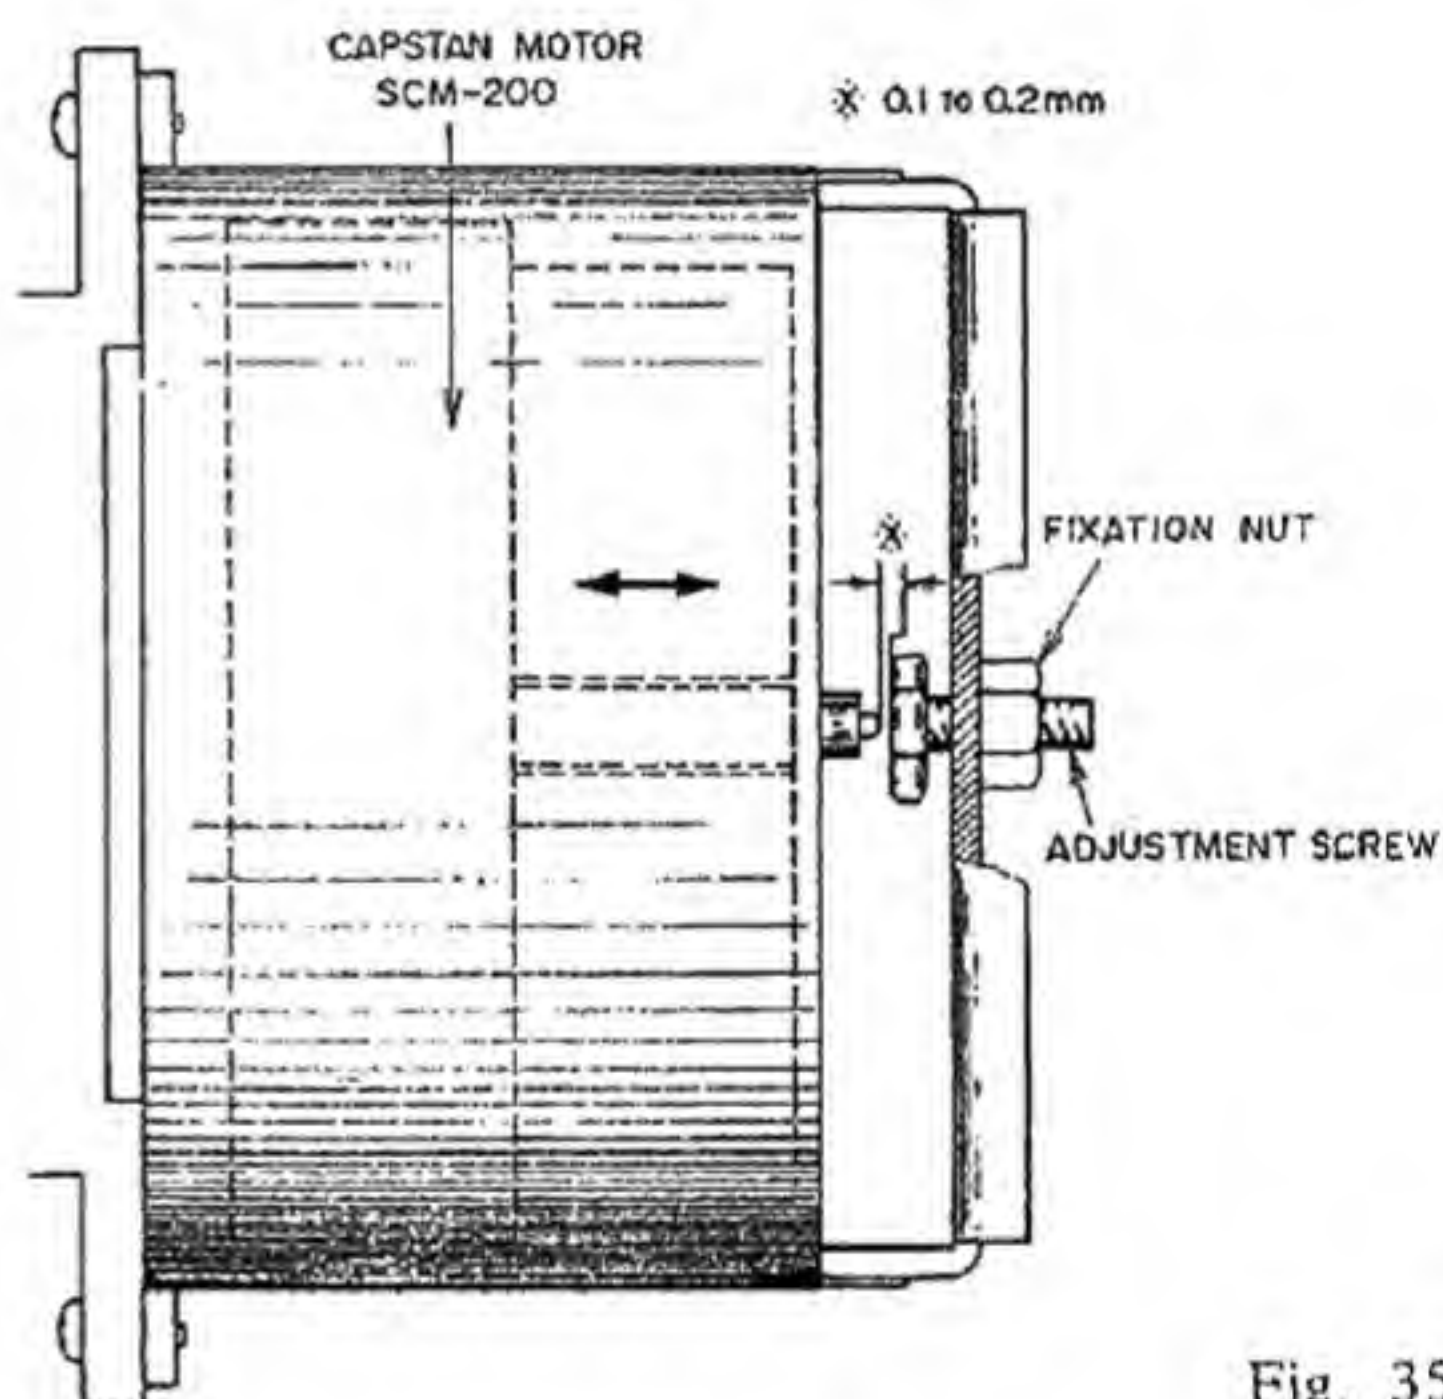

Fig. 35
4. CAPSTAN SHAFT LOOSE PLAY ADJUSTMENT (Refer to Fig. 35)